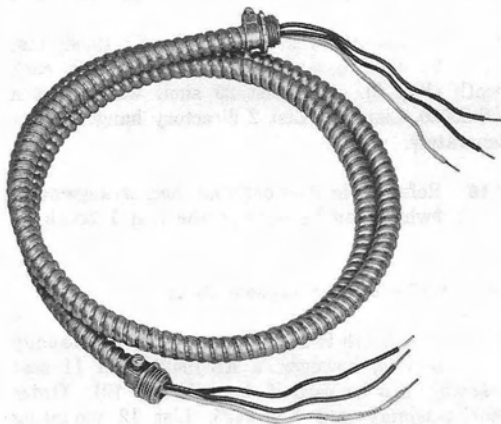

Fig. 6—KS-19425, List 24 Power Cable Assembly
- (c) **KS-19425, List 24 power cable assembly (Fig. 6):** Used to bring power from the KS-19426, List 17 circuit breaker box to the electrical receptacle (Fig. 3) located above the ceiling.